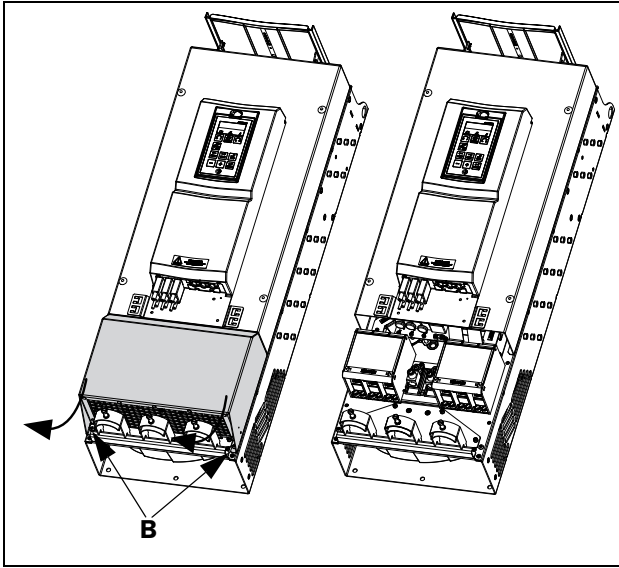

Fig. 36 Loosen the two screws and remove the lower cover (principle drawing).
- Loosen the two screws B (see fig. 36).